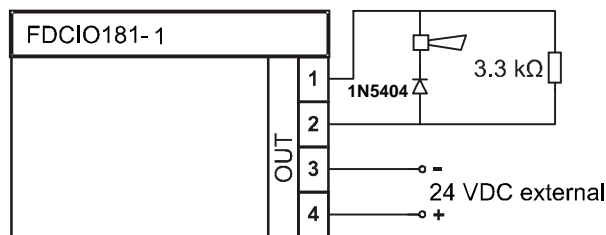

Fig.3 Connection for normal operation with output line monitored for short circuit and open line
- In inactive status the output line is monitored for open line and short circuit (Fig. 3).